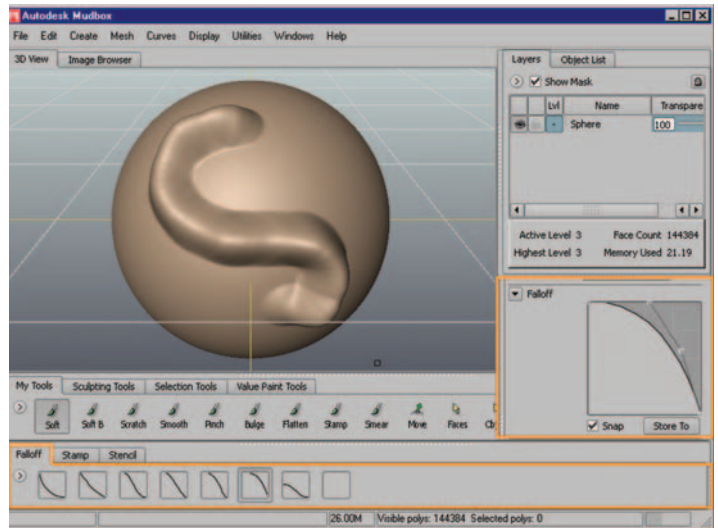

Figure 11.30 Mesh with stroke created with the Soft brush and default falloff. Falloff menu and Falloff rollout are highlighted in orange.
5. With your mouse or tablet and pen, draw a stroke on the sphere mesh in the viewport. Adjusting falloff is equivalent to adjusting focal shift in ZBrush. Falloff options are found at the bottom of the screen. In Mudbox, you have the ability to create custom falloff curves in the Falloff rollout found on the right side of the screen. Figure 11.30 shows the Sculpted brush stroke on the mesh as well as the Falloff menu and Falloff rollout.